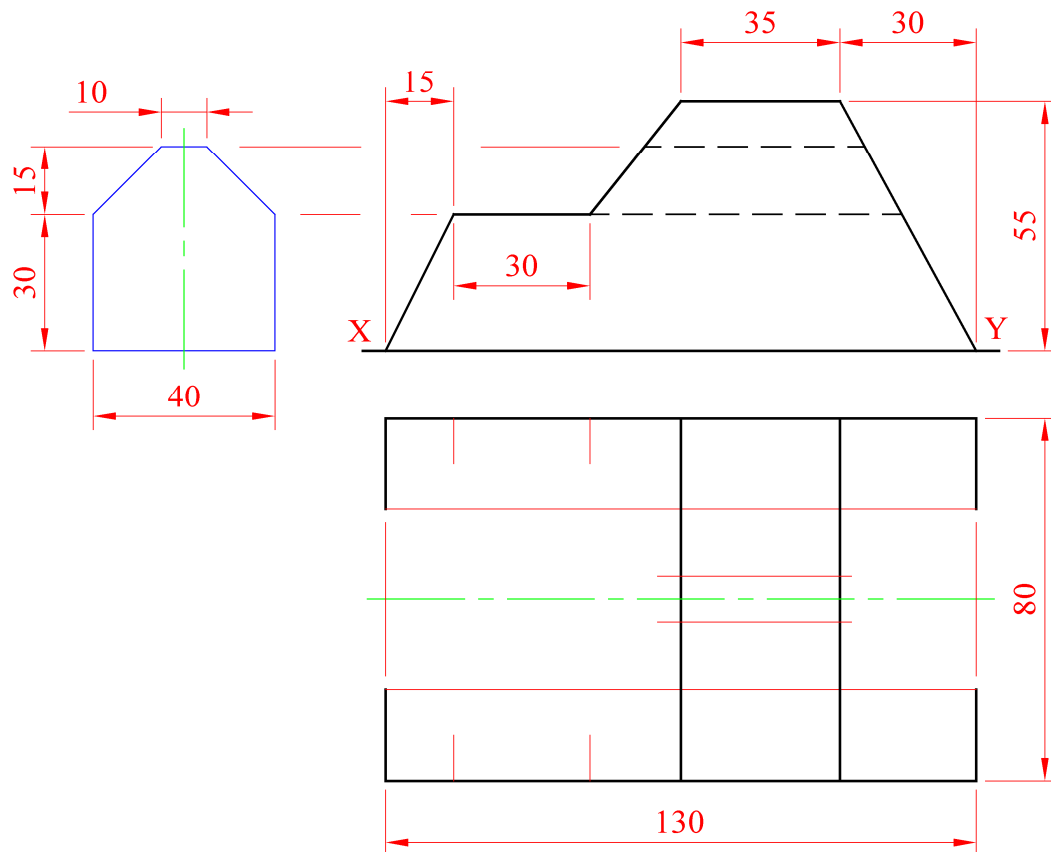

Fig. B-1
Fig. B-1 below shows the elevation and incomplete plan of a model of the structure.
- Using the information provided in the 3D graphic and in Fig. B-1, draw the elevation and the incomplete plan of the structure as given.